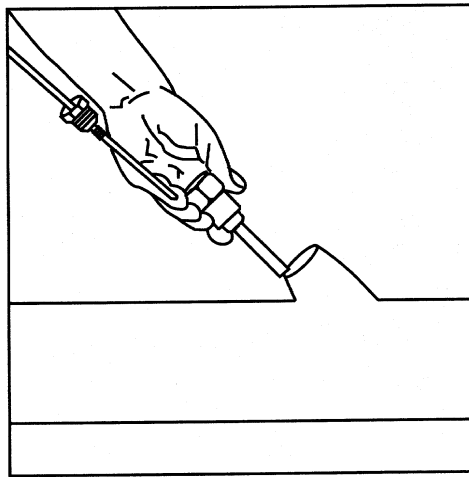

Figure 55 RTD Installation into thermowell
1. Install the thermowell into the meter run (see Figure 55).